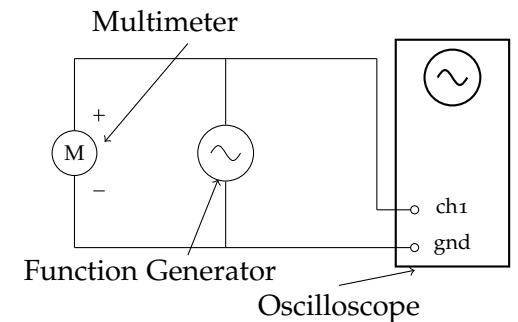

Figure 3.3: Measuring AC power supply with oscilloscope and multimeter.
An oscilloscope is most useful when measuring time varying signals. Replace the power supply in the circuit with a sine function generator as seen in Figure 3.3. The multimeter reading can now be compared to the oscilloscope display. The trace on the crt display is, of course, a sine wave whose equation is given by
2. Set up the circuit shown in Figure 3.3. Connect the multimeter as a voltmeter. Select the sine function on the generator and a frequency of about 1 kHz. To obtain a stationary trace on the scope you will